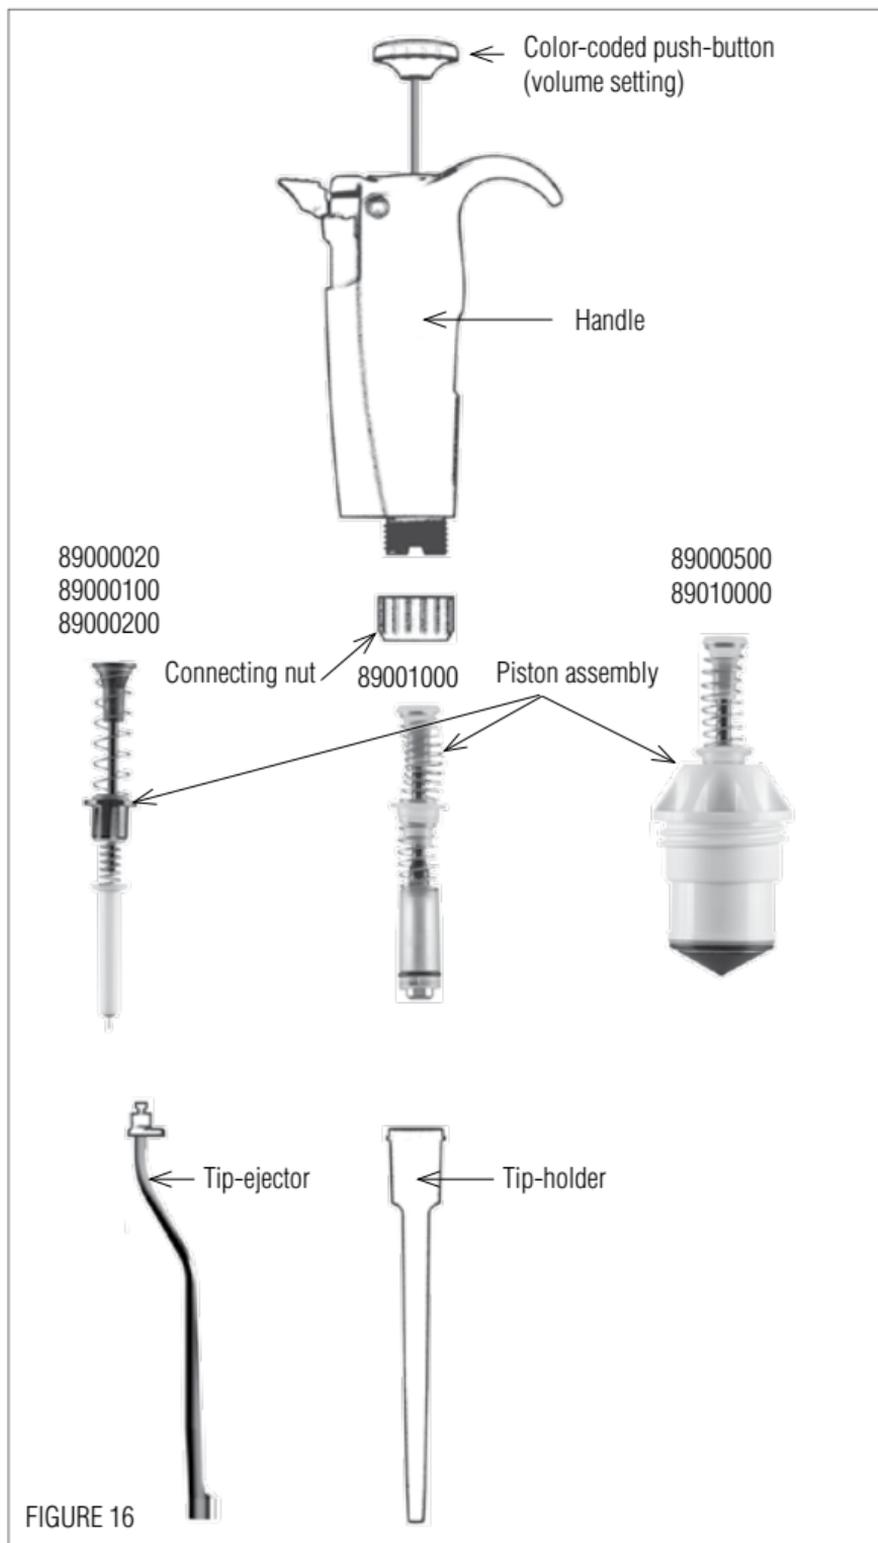

FIGURE 16
- Reassemble the pipette (refer to the figure 16).
- F Reassemble the pipette (refer to the figure 16).